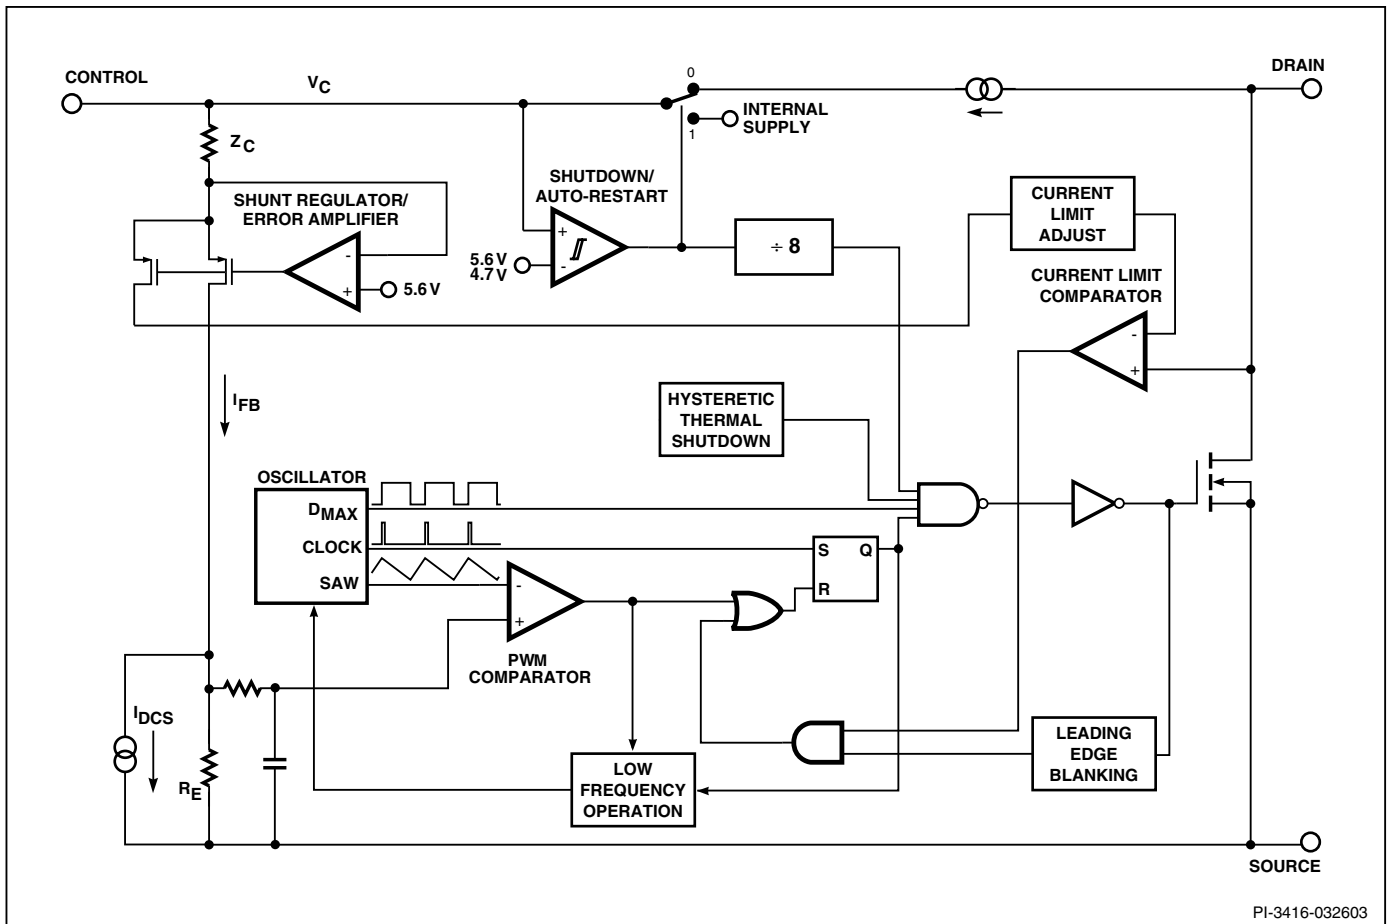
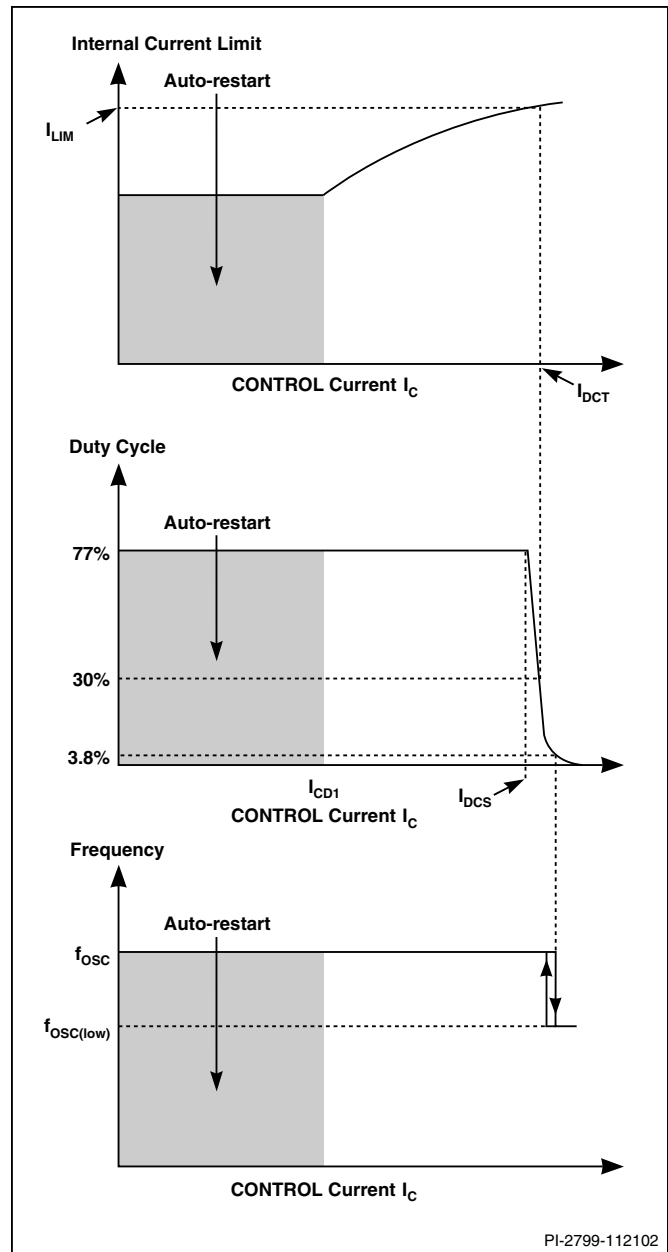
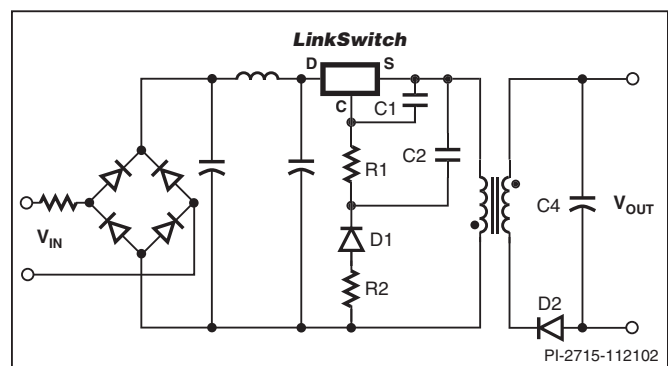
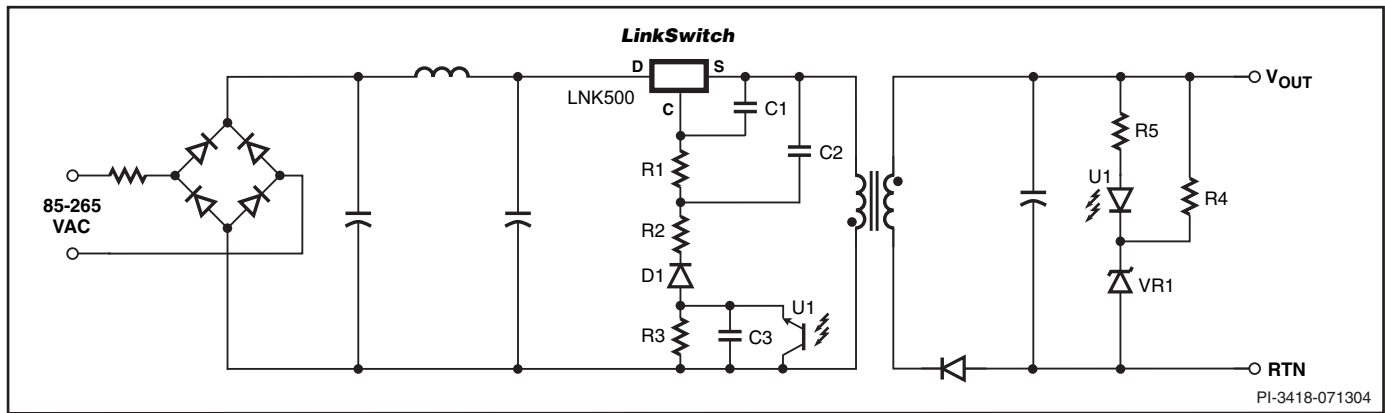

Figure 2. Block Diagram.
Figure 4. CONTROL Characteristics.
Figure 5. Power Supply Outline Schematic.
Figure 6. Power Supply Outline Schematic with Optocoupler Feedback.
The duty cycle, current limit and operating frequency relationships with CONTROL pin current are shown in Figure 4. Figure 5 shows a typical power supply outline schematic which is used below to describe the *LinkSwitch* operation.
During power up, as V_{IN} is first applied (Figure 5), the CONTROL pin capacitor C1 is charged through a switched high voltage current source connected internally between the DRAIN and CONTROL pins (see Figure 2). When the CONTROL pin voltage reaches approximately 5.6 V relative to the SOURCE pin, the high voltage current source is turned off, the internal control circuitry is activated and the high voltage internal MOSFET starts to switch. At this point, the charge stored on C1 is used to supply the internal consumption of the chip.
As the output voltage, and therefore the reflected voltage across the primary transformer winding ramp up, the feedback CONTROL current I_C increases. As shown in Figure 4, the internal current limit increases with I_C and reaches I_{LIM} when I_C is equal to I_{DCT} . The internal current limit vs. I_C characteristic is designed to provide an approximately constant power supply output current as the power supply output voltage rises.
When I_C exceeds I_{DCS} , typically 2 mA (Figure 4), the maximum duty cycle is reduced. At a value of I_C that depends on power supply input voltage, the duty cycle control limits *LinkSwitch* peak current below the internal current limit value. At this point the power supply transitions from CC to CV operation. With minimum input voltage in a typical universal input design, this transition occurs at approximately 30% duty cycle. Resistor R1 (Figure 5) is therefore initially selected to conduct a value of I_C approximately equal to I_{DCT} when V_{OUT} is at the desired value at the minimum power supply input voltage. The final choice of R1 is made when the rest of the circuit design is complete. When the duty cycle drops below approximately 4%, the frequency is reduced, which reduces energy consumption under light load conditions.
Figure 6 shows a typical power supply outline schematic using *LinkSwitch* with optocoupler feedback to improve output voltage regulation. On the primary side, the schematic differs
from Figure 5 by the addition of R3, C3 and optocoupler U1. R3 forms a potential divider with R1 to limit the U1 collector emitter voltage.
The feedback configuration in Figure 6 is simply a resistive divider made up of R1 and R3 with D1, R2, C1 and C2 rectifying, filtering and smoothing the primary winding voltage signal. The optocoupler therefore effectively adjusts the resistor divider ratio to control the DC voltage across R1 and therefore, the feedback current received by the *LinkSwitch* CONTROL pin.
When the power supply operates in the constant current (CC) region, for example when charging a battery, the output voltage is below the voltage feedback threshold defined by U1 and VR1 and the optocoupler is fully off. In this region, the circuit behaves exactly as previously described with reference to Figure 5 where the reflected voltage increases with increasing output voltage and the *LinkSwitch* internal current limit is adjusted to provide an approximate CC output characteristic. Note that for similar output characteristics in the CC region, the value of R1 in Figure 5 will be equal to the value of R1 + R3 in Figure 6.
When the output reaches the voltage feedback threshold set by U1 and VR1, the optocoupler turns on. Any further increase in the power supply output voltage results in the U1 transistor current increasing, which increases the percentage of the reflected voltage appearing across R1. The resulting increase in the *LinkSwitch* CONTROL current reduces the duty cycle according to Figure 4 and therefore, maintains the output voltage regulation.
The extent to which R3 can be increased is limited by opto transistor voltage and dissipation ratings and should be fully tested before finalizing a design. The values of C2 and C3 are less important other than to make sure they are large enough to have very little influence on the impedance of the voltage division circuit set up by R1, R3 and U1 at the switching frequency. Normally, the values of C2 and C3 in Figure 6 are chosen equal to the value of C2 in Figure 5, though the voltage rating may be reduced depending on the relative values of R1 and R2 discussed above. See Applications section for typical values of components.
The output voltage load variation can be improved across the whole load range by adding an optocoupler and secondary reference (Figure 6). The secondary reference is designed to only provide feedback above the normal peak power point voltage to maintain the correct constant current characteristic.
The schematic shown in Figure 5 outlines the key components needed for a *LinkSwitch* supply.
Since the SOURCE pins in a *LinkSwitch* supply are switching nodes, the copper area connected to SOURCE together with C1, C2 and R1 (Figure 5) should be minimized, within the thermal constraints of the design, to reduce EMI coupling.